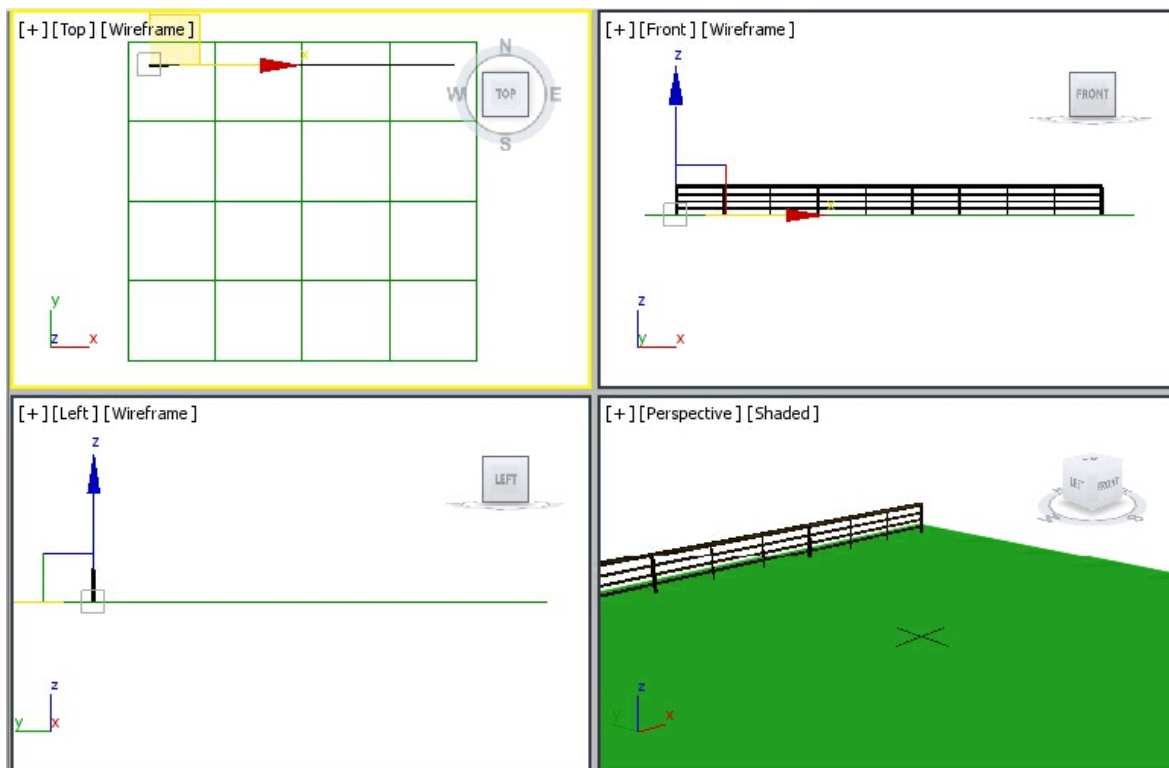

Figure 4-57 The railing01 geometry in viewports after aligning it in the Top viewport
11. Make sure *railing01* is selected in the Top viewport. Now, choose the **Select and Move** tool from the **Main Toolbar** and align the railing manually, as shown in Figure 4-57.